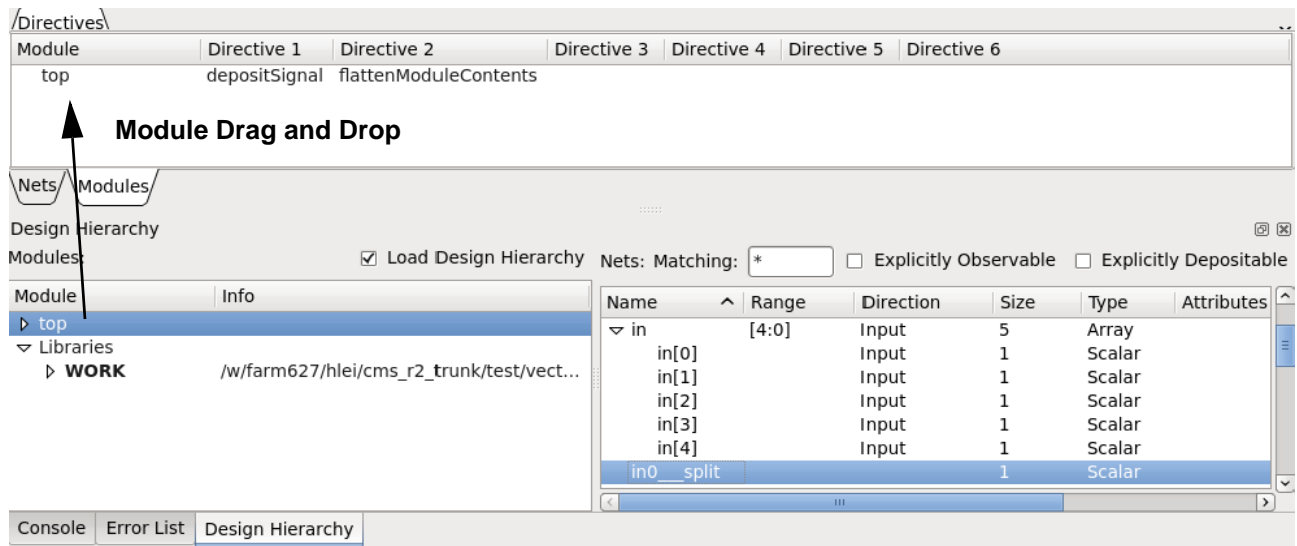

Figure 3-16 Add Module to Module Directives Window
3. Drag and drop modules to the *Directives* pane in the Main view, and apply directives to them (see Figure 3-16). Note that you can only place modules in the Modules tab, and nets in the Nets tab.